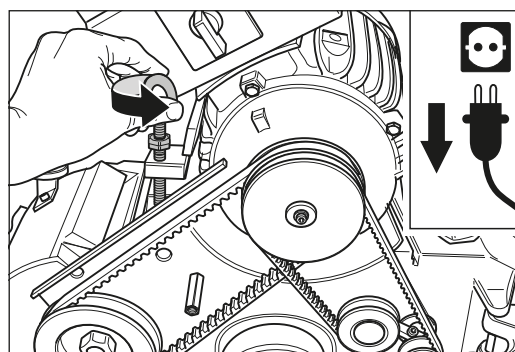

Fig. 52 Release the tension of the V-belts by turning the eye bolt at the motor counterclockwise.
- 6 Release the tension of the V-belts by turning the eye bolt at the motor counterclockwise (fig. 52).